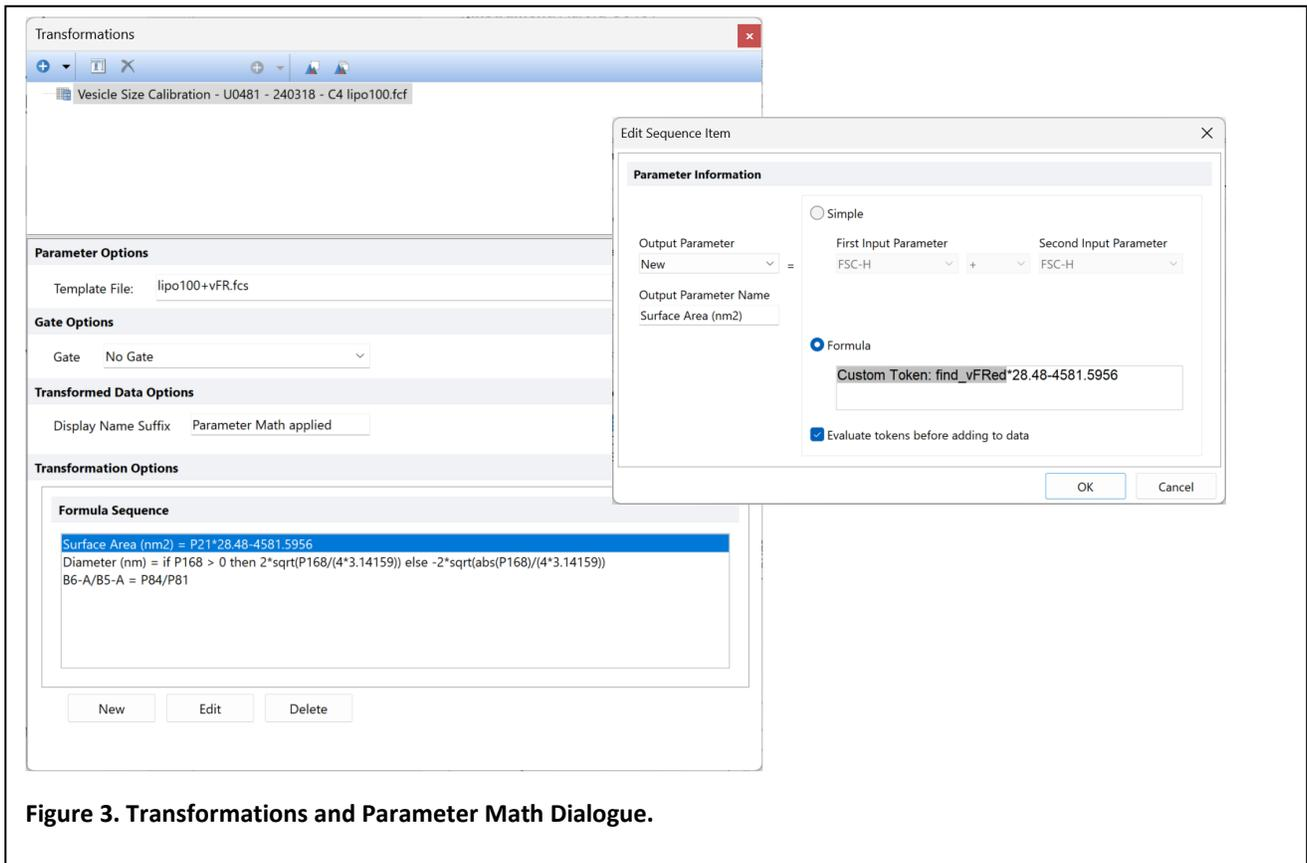

Figure 3. Transformations and Parameter Math Dialogue.
- Open Transformations (Tools>Transformations) then select the Vesicle Size Calibration parameter math Transformation (**Figure 3**).